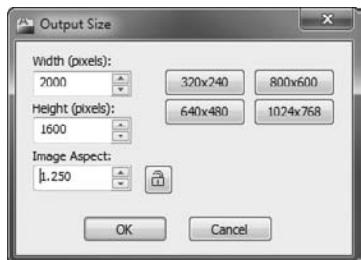

FIGURE 17.38 The Output Size dialog box
7. In the Output Size dialog box (see Figure 17.38), set Width to 2000 and Height to 1600, and then click OK.